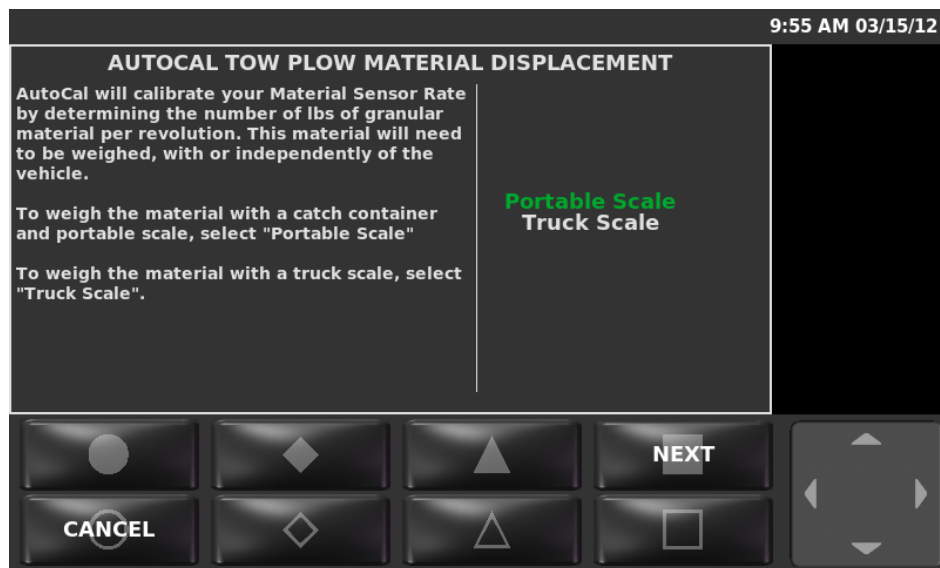

Figure 8: AutoCalibration Tow Plow Granular Material Displacement Wizard
- STEP 6: The AutoCal Displacement wizard will appear, as shown in Figure 8.